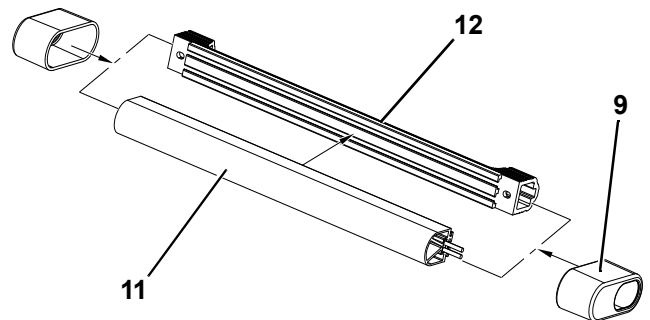

Figure 4-50.
2. Align and attach Platform Sensor Mount (12) onto the SkyGuard Switch (11) as shown in Figure 4-50.
3. Attach Platform Sensor Covers (9) to SkyGuard switch assembly at both ends. See Figure 4-50.